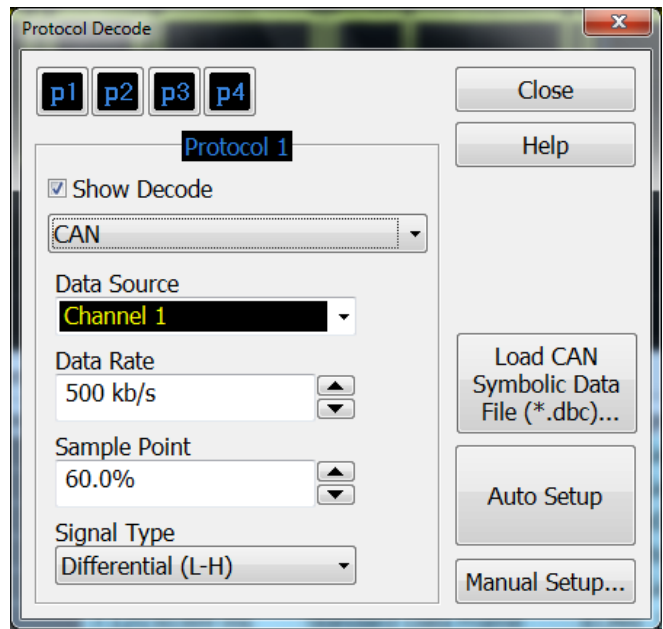

Figure 4a. Recalling the .dbc into the oscilloscope in order to trigger and decode symbolically.
3. Load CAN Symbolic Data (\*.dbc) as shown in Figure 4a.